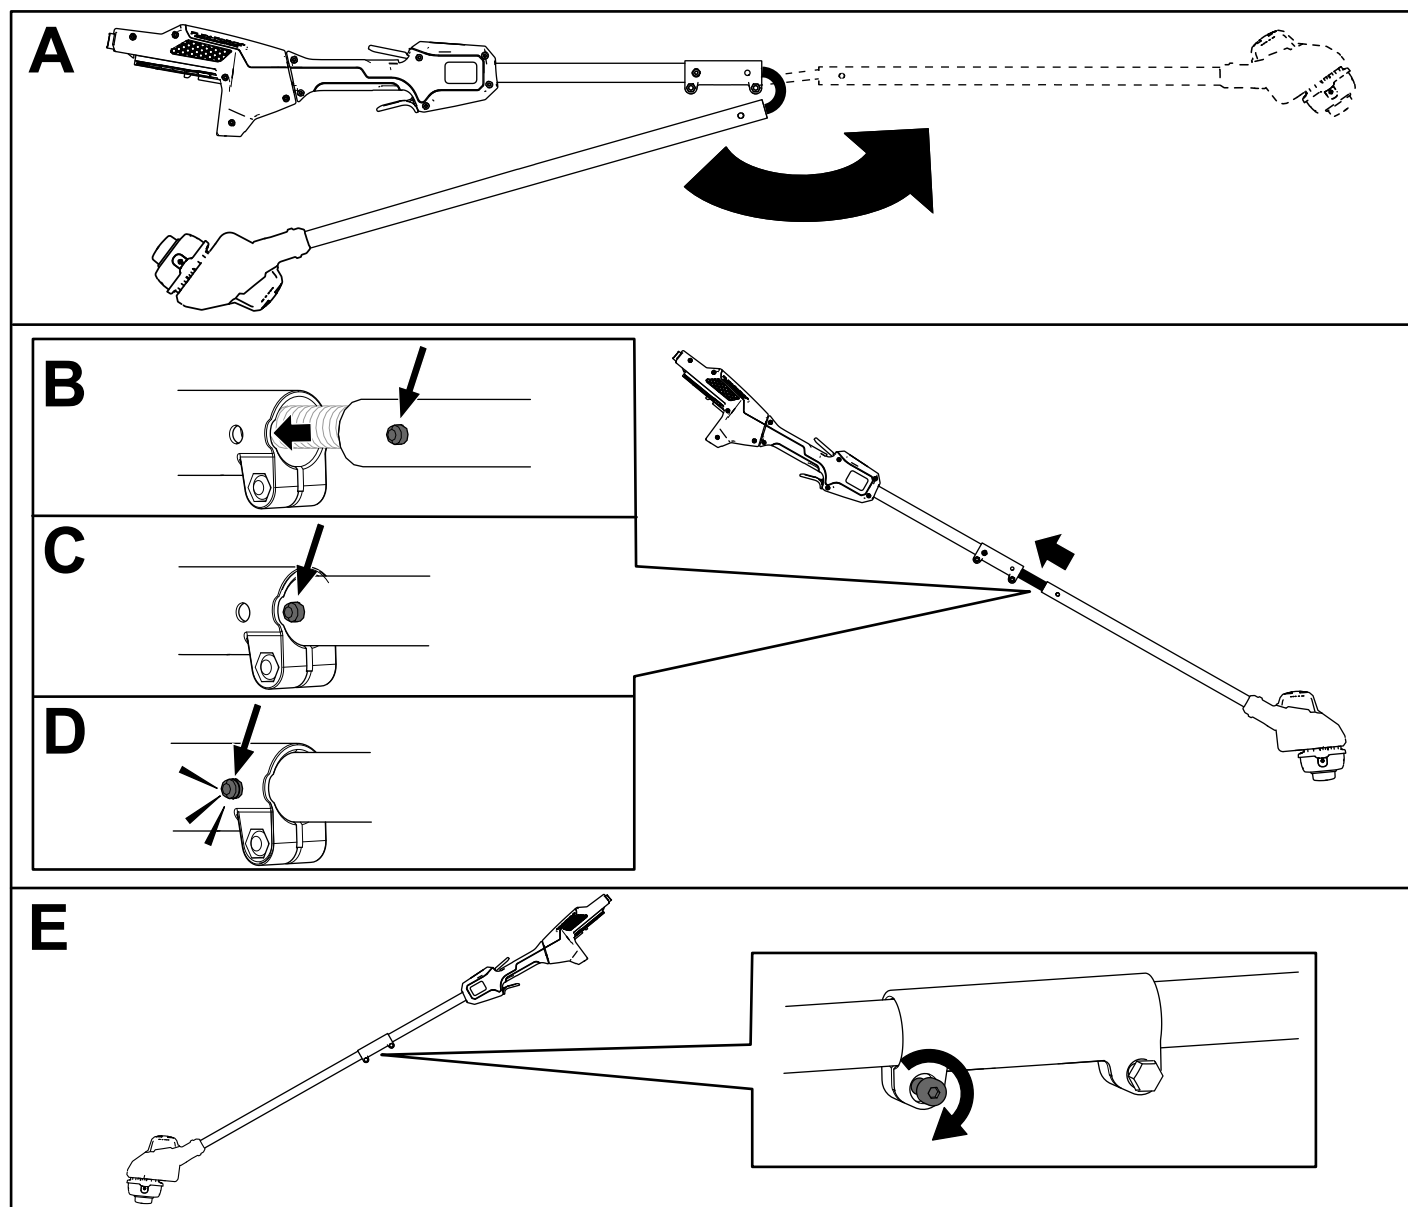

Figure 3
1. Unfold the handle (A of Figure 3).
2. Align the locking button on the lower shaft with the slotted hole on the upper shaft and slide the 2 shafts together (B and C of Figure 3).
- Note:** The locking button clicks into the slotted hole when the shafts are secured (D of Figure 3).
3. Using the provided Allen wrench, tighten the screw on the shaft connector until it is secure (E of Figure 3).